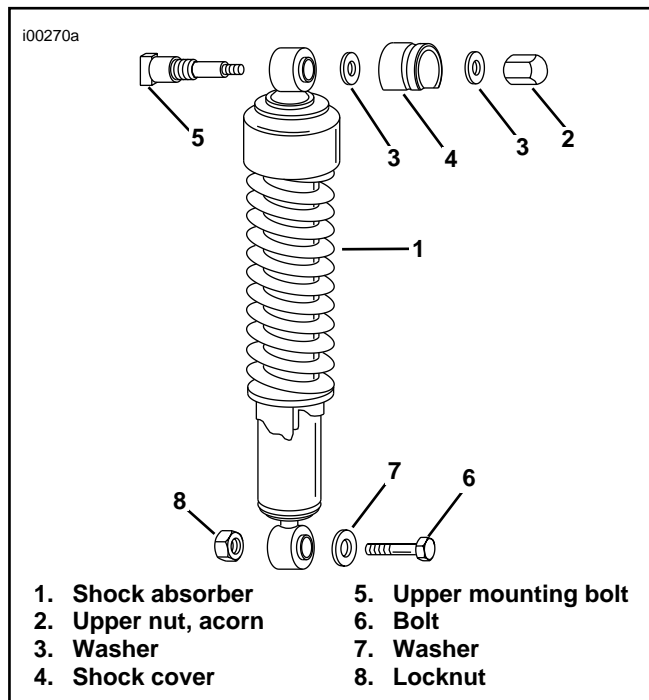

Figure 1a. Shock Absorber Removal Hugger Models Only
4. See Figure 1a. With rear fender and frame securely supported, remove left and right shocks by removing upper nut (2), washer(s) (3) and shock cover (4). Remove bolt (6), washer (7) and locknut (8) at lower shock mount. Remove shock.
5. Install long 4-1/2 in. bolt (1) from kit, from inside of fender out through rear holes where button head screws were removed in Step 3.
6. Reinstall shocks using original hardware. Torque acorn nut (2) to 21-35 ft-lbs (28.5-47.5 N-m). Torque locknut (8) to 30-50 ft-lbs (40.7-67.8 N-m).